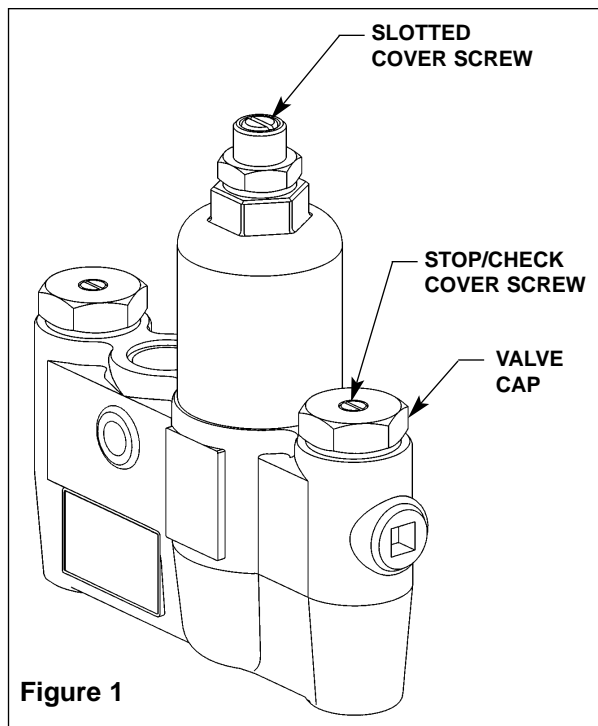

Figure 1
NOTE: When the check valves are in the OPEN (operating) position, the cover screw for the stop/check stem will be flush with the valve cap (see Figure 1).
- *make sure that the check valves are fully open (the slotted stem must be flush with the stop/check cap) (see Figure 1 on page 3) and that all inlet and outlet shut-off valves are open*